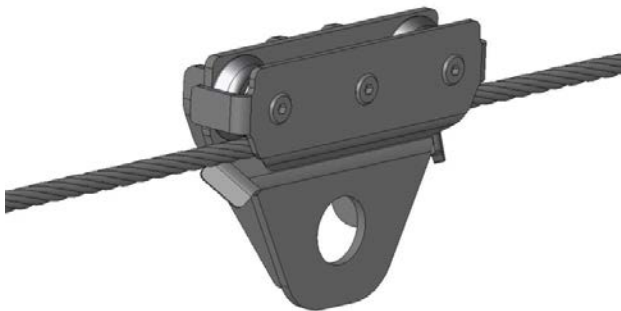

Fig. 3 Hands-Free Traveler installed
4. Slide Traveler back and forth over wire rope while examining wheels for motion. Wheels should turn and rotate freely as Traveler moves. For any wheel that does not spin freely, the Traveler may need to be dis-assembled and the wheels and bolts examined to verify there is no debris present that would keep wheel from spinning freely. Re-assemble Traveler per above steps and re-examine for smooth rolling motion and confirm that the wheels are turning smoothly. Any Traveler still failing to roll smoothly should be returned to Reliance for further examination. See Figures 3 and 4 for illustrations of a properly installed Traveler.